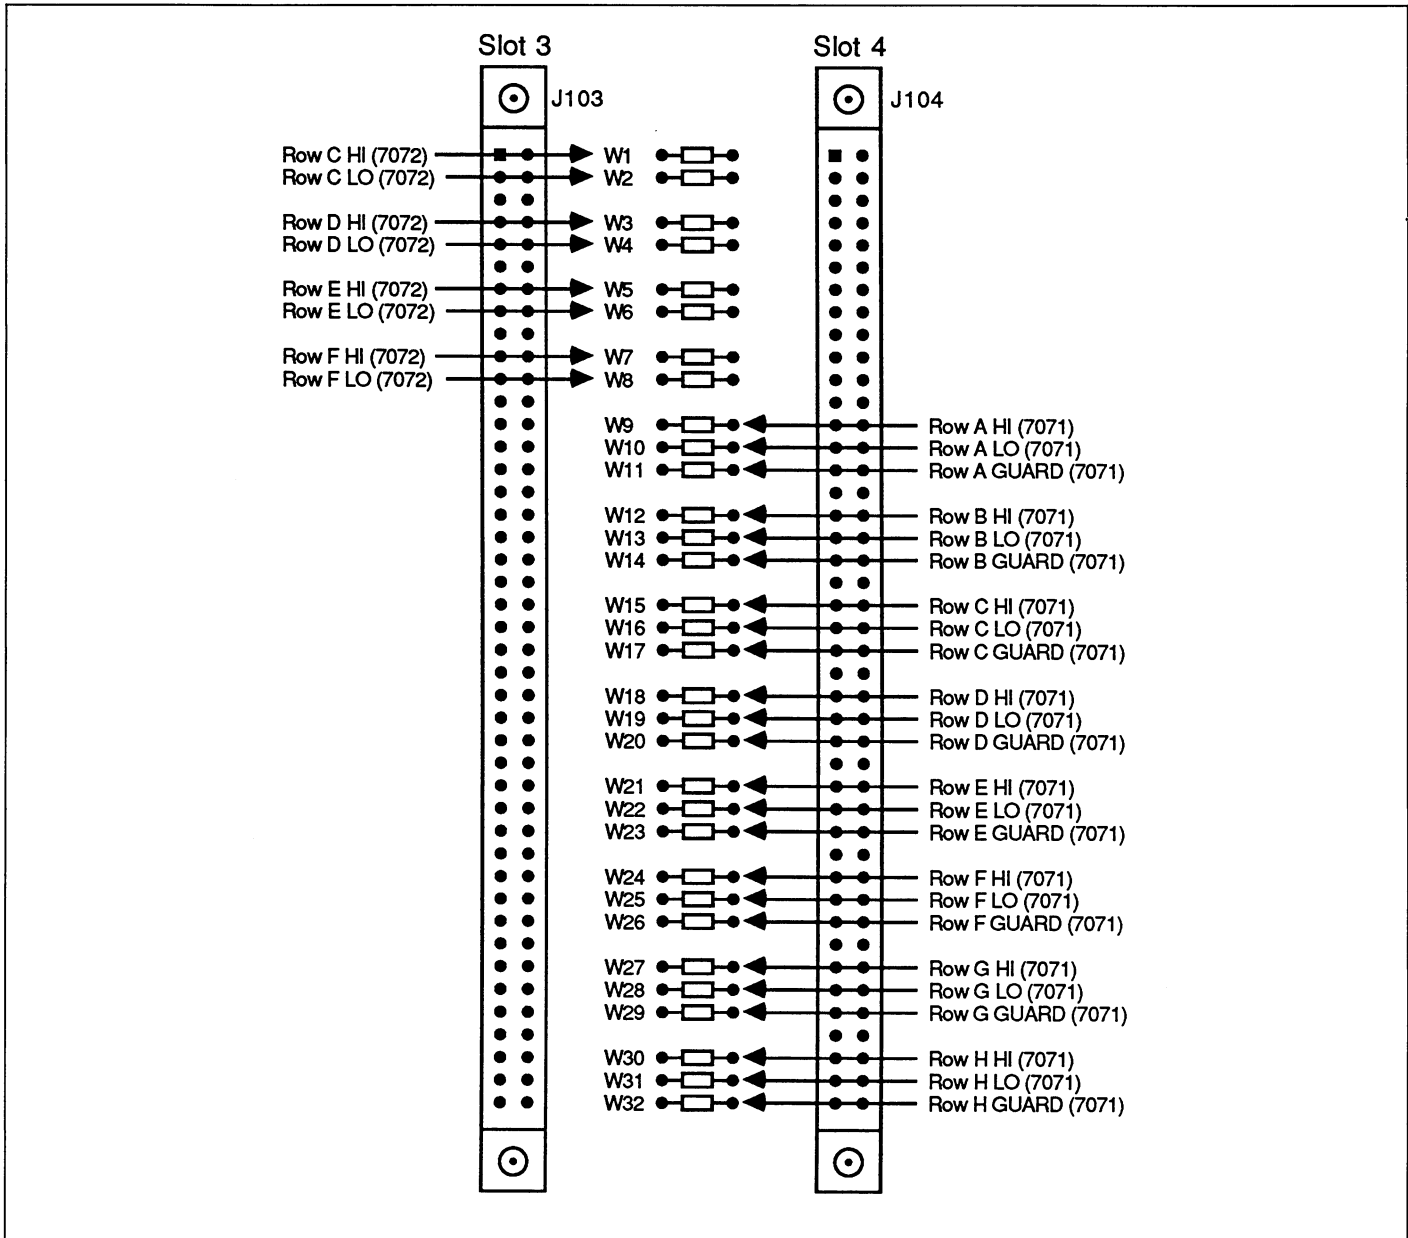

Figure 3-21. Backplane Jumpers
4. The backplane jumpers are called out in Figure 3-21. Remove them by snipping with diagonal cutters.